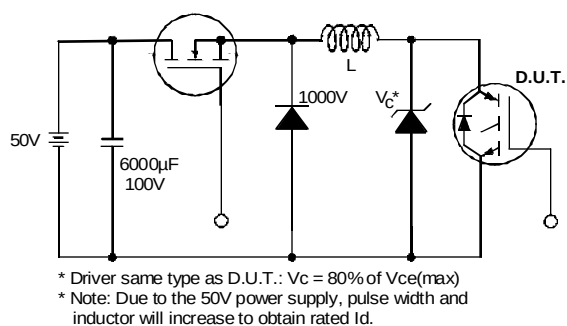

Fig. 19- Clamped Inductive Load Test Circuit
② $V_{CC}=80\%(V_{CES}), V_{GE}=20V, L=10\mu H, R_G = 10\Omega, (\text{ See fig. 19 })$
③ Pulse width $\leq 80\mu s$; duty factor $\leq 0.1\%$.
④ Pulse width 5.0 μs , single shot.